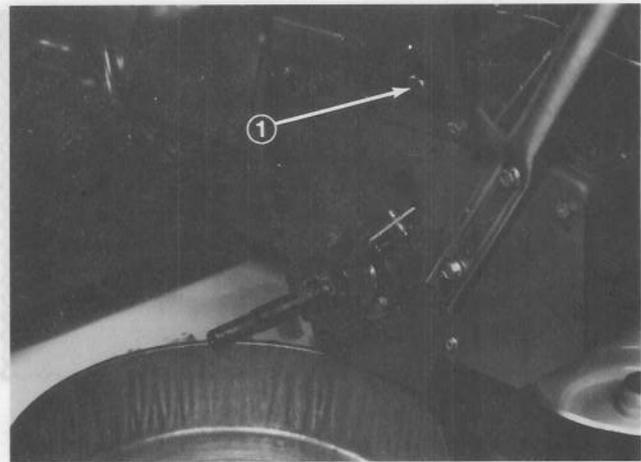

Figure 34
4. Clean area around oil drain cap. Slide oil drain pan below drain extension and remove oil drain cap (Fig. 34).